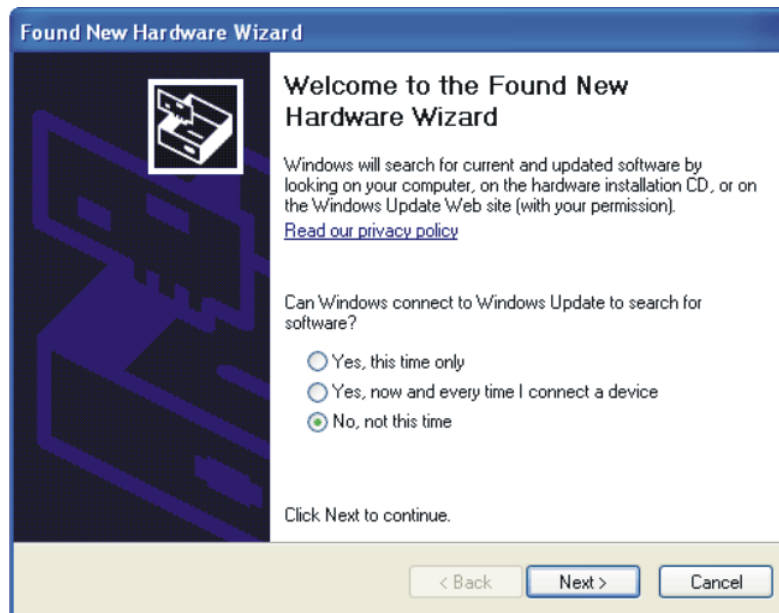
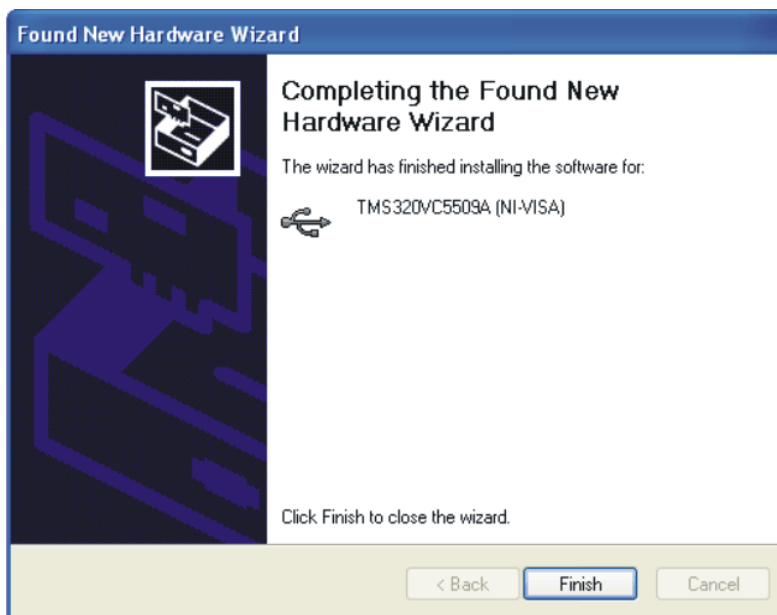

Figure 9. NI-VISA Driver Installation
Figure 12. NI-VISA Driver Complete Installation
2. The computer should recognize new hardware and begin installing the drivers for the hardware. Figure 9 through Figure 12 are provided for reference to show the installation steps.
- For the first screen, Figure 9, it is not necessary to search for the software; it has already been installed to your PC.